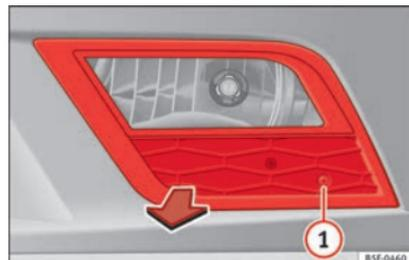

Fig. 101 Front fog light.
- Remove the bolt » Fig. 101 **1** from the fog light grille with a screwdriver.